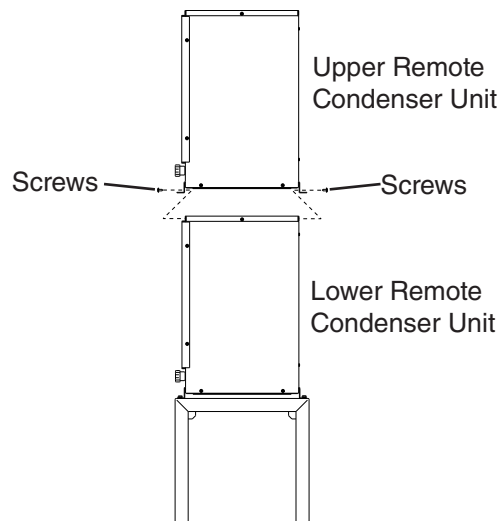

Fig. 14
- 2) Place the upper remote condenser unit on top of the lower remote condenser unit. See Fig. 14.